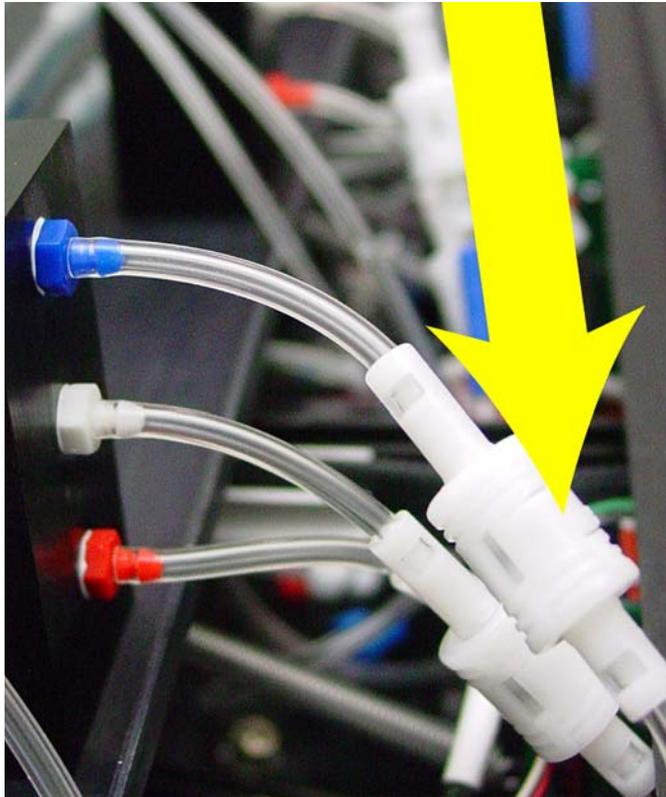

Figure A.2
2. Disconnect the module's color-coded reagent lines (wash-A, wash-B, and DI) from the lines coming from the manifold using the 1/8th turn, quick-disconnect fittings, and tuck the lines into the space around the eight-way valve. See Figure A.2.